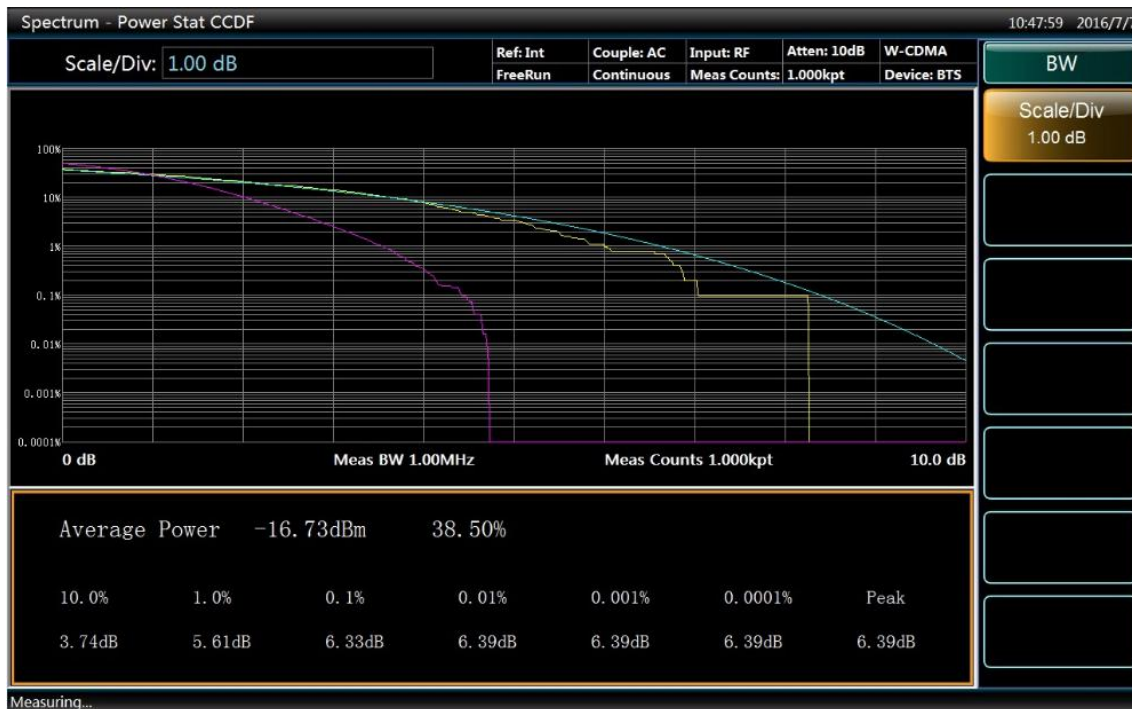

Fig. 4.73 Modify the X-axis Scale
- Press [Bandwidth / X-axis], [Scale / Division]. Set the X-axis scale to 1 dB, as shown in Fig. 4.73.